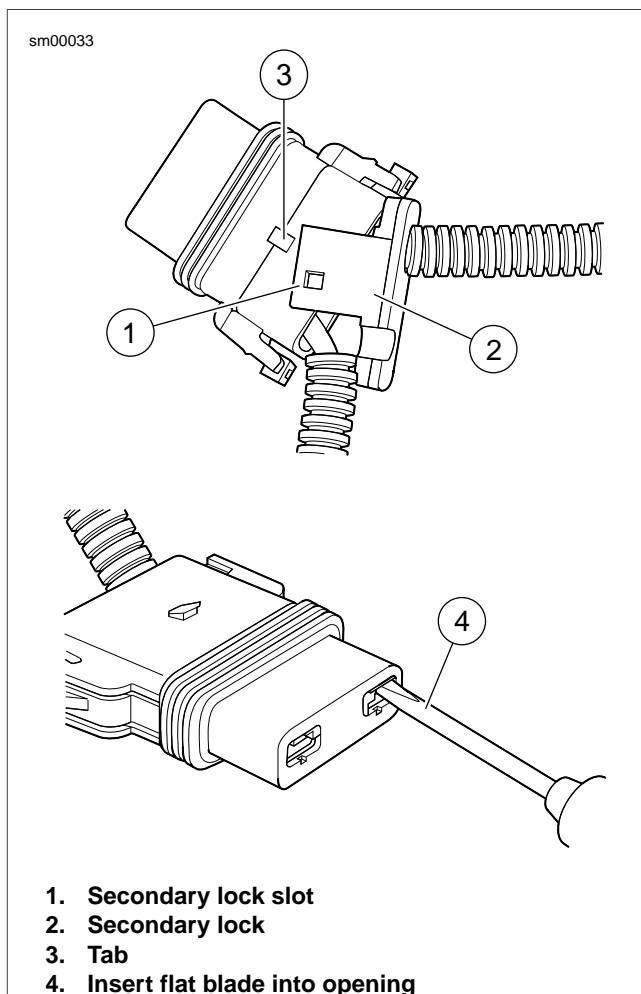

Figure A-14. Delphi 800 Metri-Pack Sealed Main Fuse Housing: Remove Socket Terminals
2. See Figure A-14. Disengage slots (1) on secondary lock (2) from tabs (3) and remove secondary lock.
3. Insert flat blade of pick or small screwdriver into opening (4) until it stops.